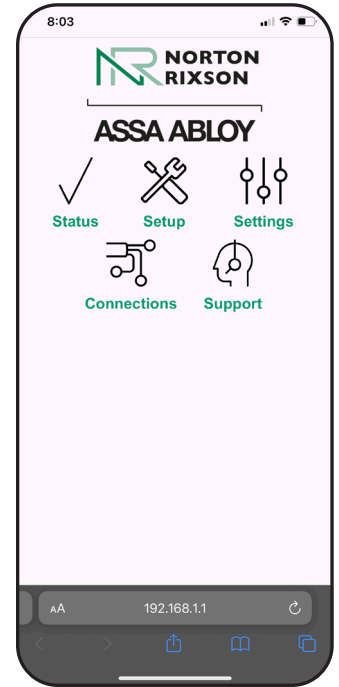

Figure 15
- The 6200 Series Operator homepage is indication of a successful connection. (Figure 15)